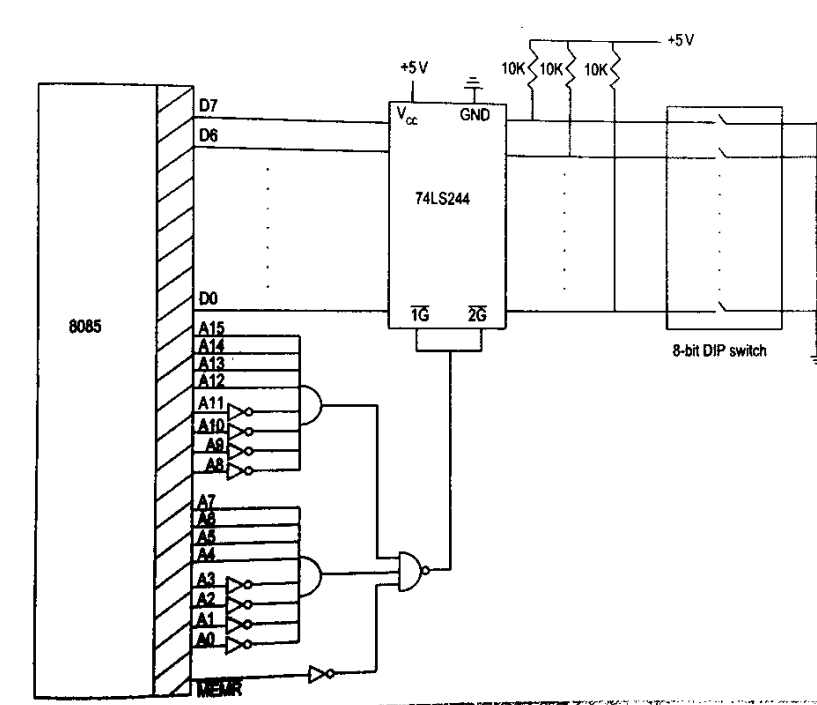

Fig. 3.7 Interfacing 8-bit DIP switch with 8085
- iii. The data in the data bus is read and stored in the accumulator. Fig. 3.7 shows the interfacing diagram.